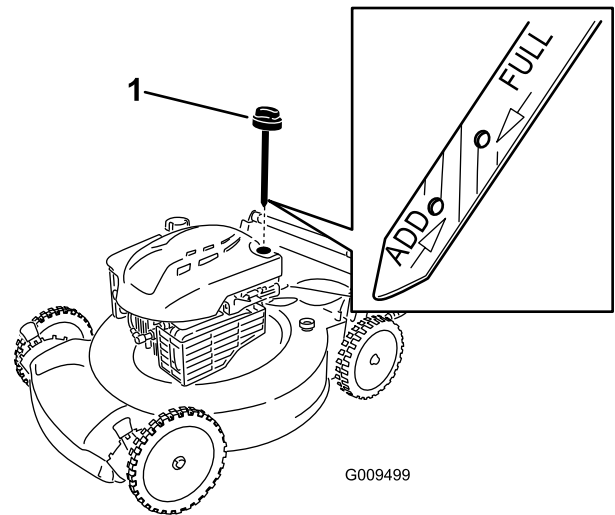

Figure 17
2. Remove the dipstick (Figure 17).
4. **Slowly** pour oil into the oil fill tube until the oil level reaches the **Full** line on the dipstick (Figure 17). **Do not overfill.** (Max. fill: 20 oz. (0.59 l), type: SAE 30 detergent oil with an API service classification of SF, SG, SH, SJ, SL, or higher.)